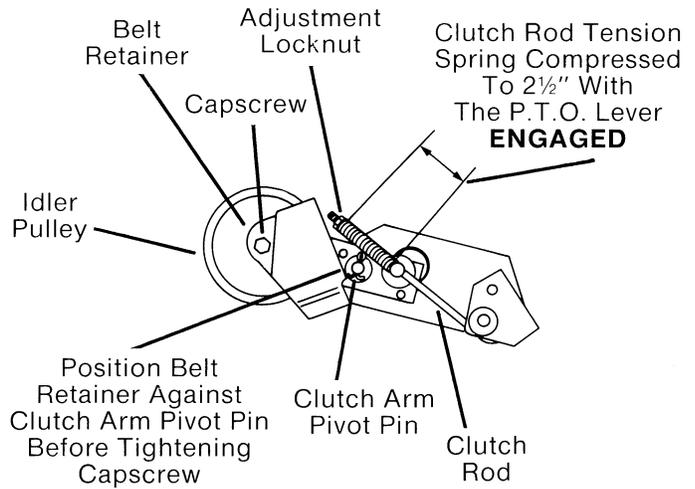

FIG. 12
- B. Move the P.T.O. lever to the **ENGAGED** (up) position. Measure the compression of the clutch rod tension spring. Spring should be compressed to dimension shown in (Fig. 12). Turn adjustment locknut on end of clutch rod until dimension is achieved.
NOTE: Before tightening hardware, be sure belt retainer is positioned **against** clutch arm pivot pin. (Fig. 12)
- G. If idler pulley has reached the last notch and the belt still slips; turn adjustment locknut on end of clutch rod (Fig. 12) **in** (clockwise) until belt stops slipping.
- K. After deck has been remounted to tractor, turn locknut to adjust clutch rod tension spring to the dimension shown in (Fig. 12).